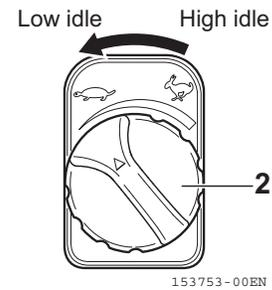

Fig. 3-56
2. Turn the engine control dial (**Fig. 3-56, 2**) to the Low idle direction.